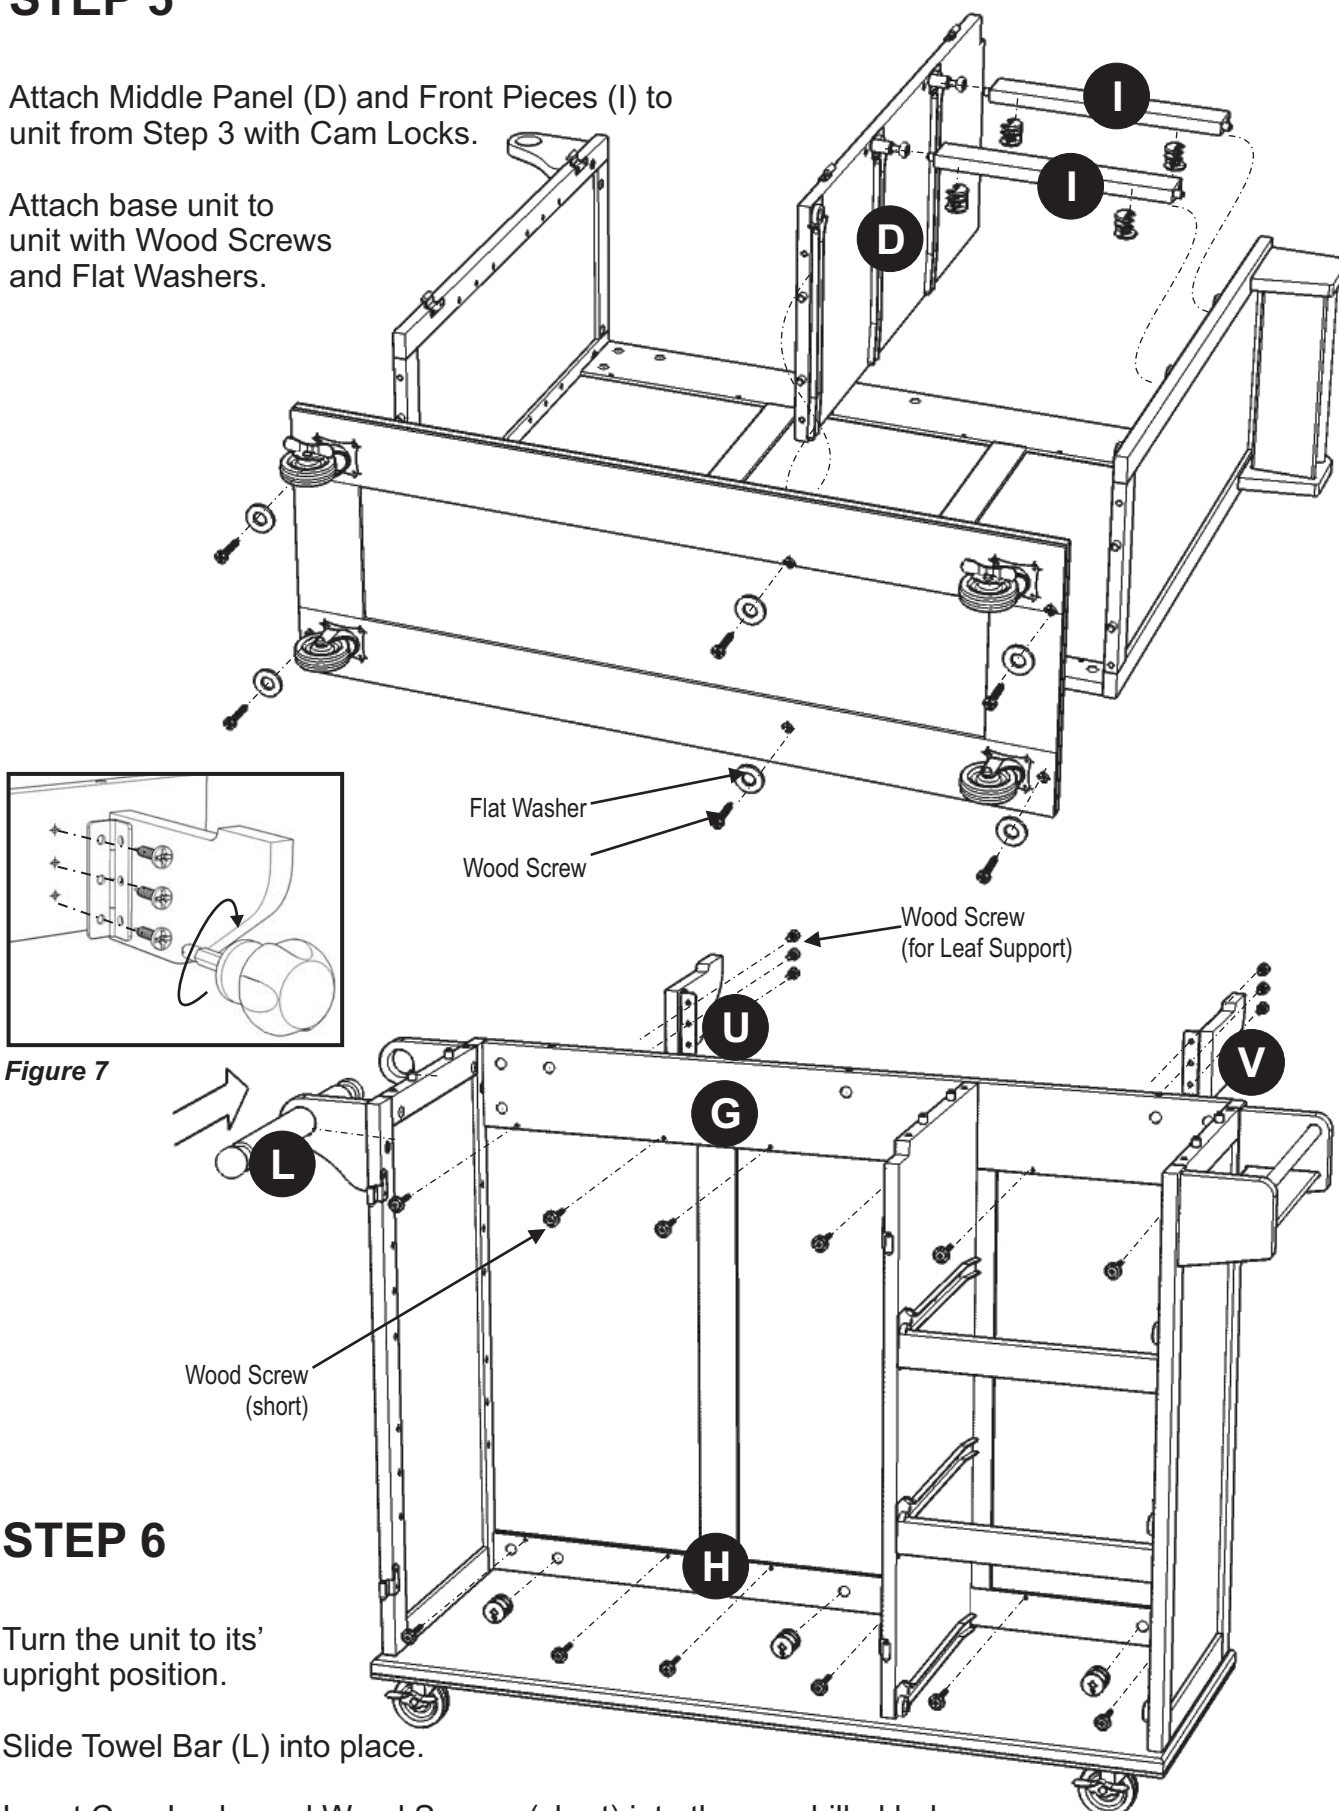

Figure 7
Attach Leaf Supports (U) and (V) to unit with Wood Screws (for Leaf Support) (See Figure 7).